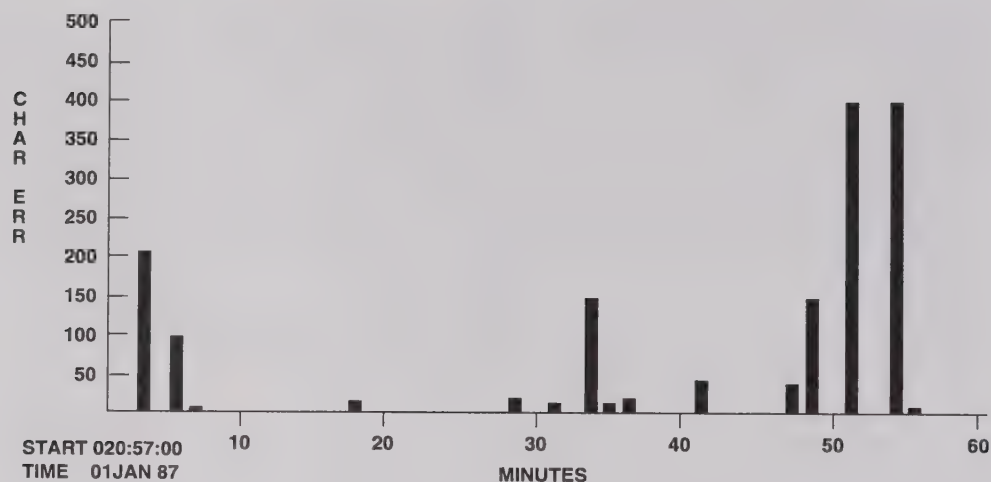

Figure 3-7
13. Press the softkey below the **FORMAT** menu item to select the printout format. Format choices are **GRAPH** (Figure 3-7) or **LIST** (Figure 3-8). **LIST** provides a printed value for the accumulated result and **GRAPH** provides a plot of the result value.
Histograms can be generated automatically when the **PRINTER OFF/ON** switch is enabled (the LED in this switch is illuminated). With a printer connected to the FIREBERD printer connector, and auxiliary function 11 (**I/O DRIVER SEL**) and auxiliary function 37 (**PRNT FRMT**) set for the printer being used. With **ON** displayed on the top line of the histogram menu, automatic printouts are generated by the time interval determined by the **#SMPLS** (samples) and **PERIOD** menu selections. The time displayed on automatic printouts reflects the time the histogram analysis began accumulating the displayed results. A marker on the horizontal axis of the printout indicates the position of the last sample. An automatic printout causes all three histograms to be generated. Automatic printouts are continuously generated until disabled. Figure 3-7 illustrates an automatic histogram printout in graph format.